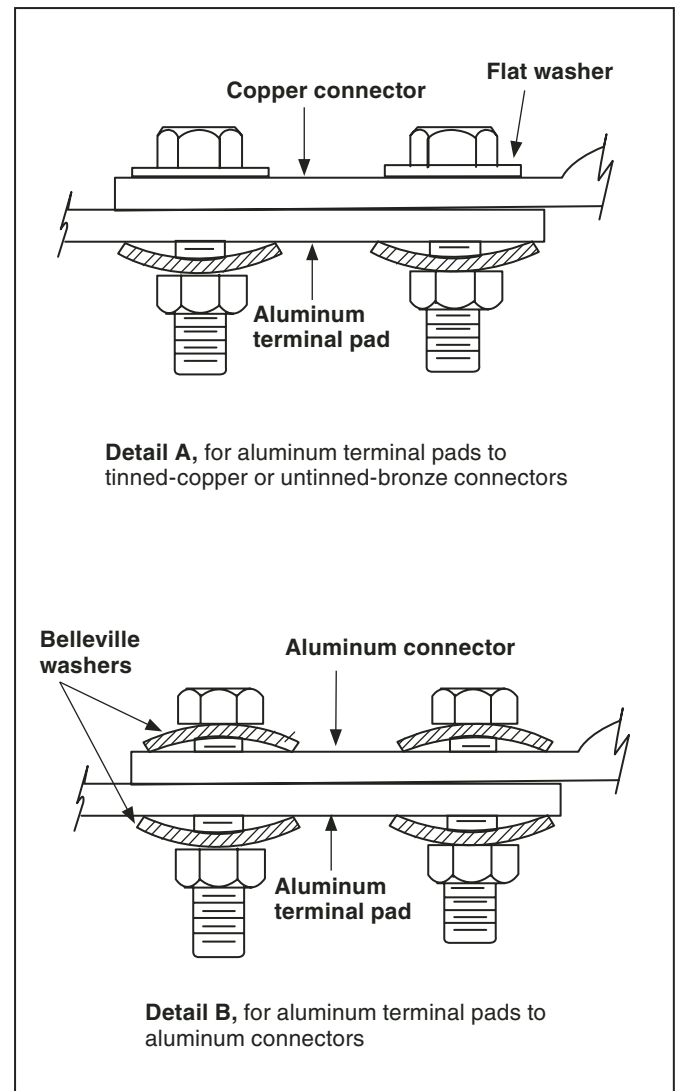

Figure 17. Terminal pad connections for aluminum terminal pads.
- (a) For aluminum terminal pads to tinned-copper or tinned-bronze connectors (untinned-copper or untinned-bronze connectors are not recommended), use ½-inch galvanized steel hardware, with one Belleville washer (not furnished) against the aluminum terminal pad and one galvanized steel flat washer against tinned connector, as shown in Figure 17, Detail A. Tighten steel bolts to 50 foot-pounds using a torque wrench. If a torque wrench is not available, tighten until the Belleville washers are flat, and then back off one-half turn. Do not use lockwashers with Belleville washers.
- (b) For aluminum terminal pads to aluminum connectors, use ½-inch aluminum or galvanized steel hardware with two Belleville washers (not furnished) as shown in Figure 17, Detail B. Tighten aluminum bolts to the manufacturer's specifications. Tighten steel bolts to 50 foot-pounds using a torque wrench. If a torque wrench is not available, tighten until the Belleville washers are flat, and then back off one-half turn. Do not use lockwashers with Belleville washers.